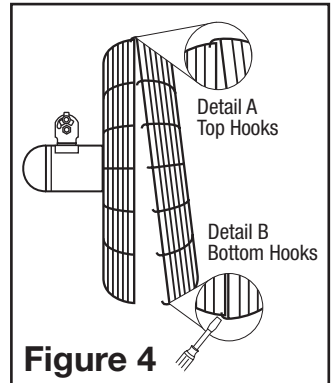

Figure 4
3. Hold the front grill so that the name, in the center, is right side up and straight across. Starting at the top: fasten front grill to rear grill by sliding the hooked wires on the front grill over the outermost ring on the rear grill (**Figure 4 / Detail A**). The bottom most hooks will require the use of a flathead screwdriver to complete assembly. Stand behind the fan. Slip the flat of the screwdriver between the front and rear grills, next to one of the unfastened hooks (**Figure 4 / Detail B**). Pull screwdriver handle upwards towards the rear grill. Slip the front grill hook over the rear grill outer ring with a push. Repeat procedure with remaining hooks.